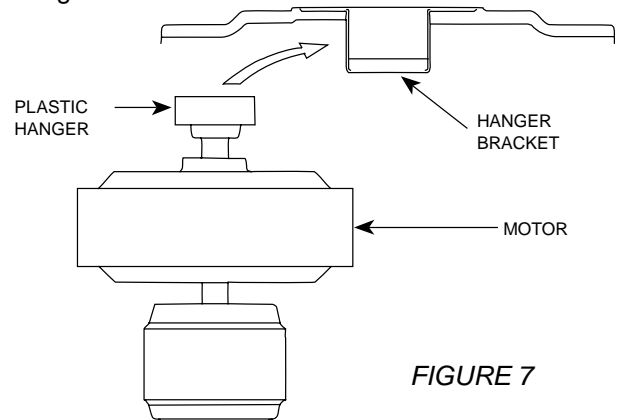

FIGURE 7
- A. Lift the motor and insert the plastic hanger into the opening in the front of the hanger bracket. See Figure 7. Make sure none of the wires are trapped between the plastic hanger and the inside of the hanger bracket.